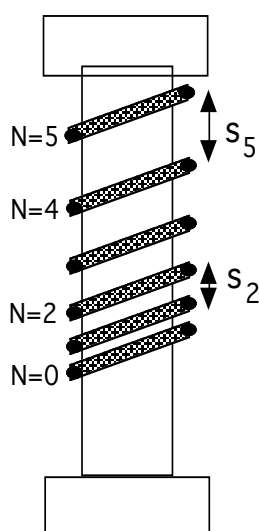

Fig.4: A deformed coil
The deflection of the coil (a measure of the shear strain) when loaded can be measured in terms of the spacing  $s$  between adjacent turns (Fig.4). It is found that the local shear strain  $\gamma$  is given by:
On allowing the coil to creep, the spacing of the turns at the top (where the weight of the underlying coils is largest) will increase most (Fig.4). This spacing, divided by the time, is a measure of the strain rate for that particular value of stress, so that the strain rate is given by
3. Take a double sheet of "duplicate" paper and place it so that the pressure-sensitive sheet is in contact with the whole length of the coil. Rub the top sheet gently (to avoid altering the coil spacing) with a soft pencil (or the mandrel itself) to make an impression of the coil on the pressure-sensitive sheet. The rubbing direction should be perpendicular to the mandrel (parallel to the coils). Remove the paper and measure the turn spacing  $s$  as a function of the turn number  $N$ , noting that  $N = 0$  at the bottom of the coil (Fig.4). See section "Analysis of results" before measuring since entering data directly into a table with appropriate columns which facilitate subsequent analysis.